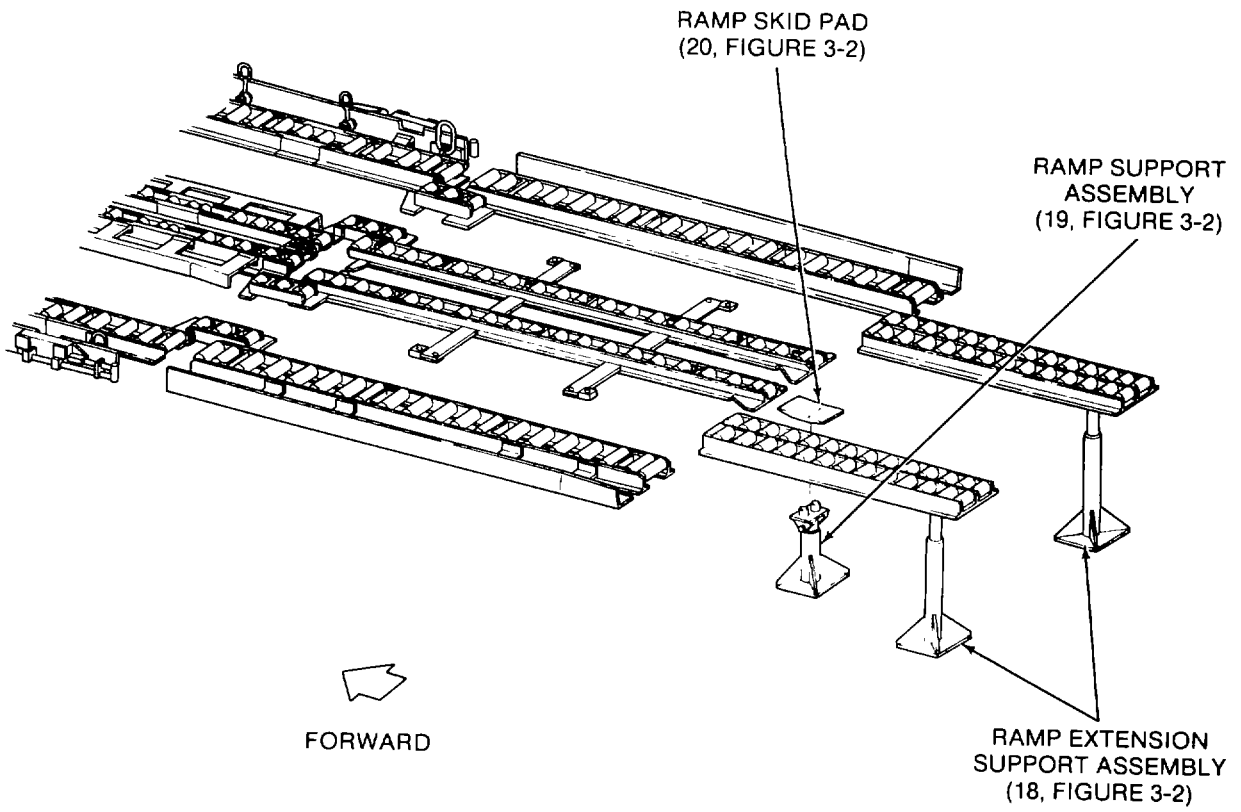

Figure 2-21. Location of Ramp Support Assemblies
(1) Refer to Figures 2-21 and 2-22 and position ramp support assembly (19, Figure 3-2) so that index support ramp support weldment (1, Figure 3-15) engages both ramp support holes in ramp skid pad (20, Figure 3-2). Adjust support assembly to the proper height.
(2) Refer to Figures 2-21 and 2-22 and position a ramp extension support assembly (18, Figure 3-2) under each ramp extension roller assembly (15) so that ramp extensions support index support (1, Figure 3-14) is engaged. Ensure that FWD/AFT marking on support assembly is oriented parallel with aircraft centerline.